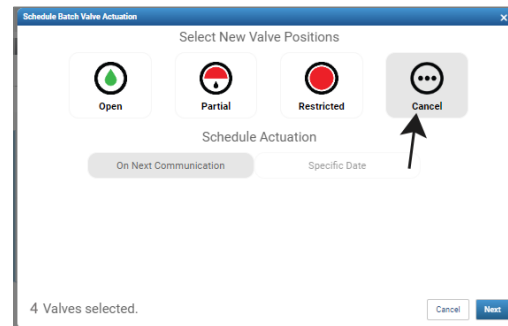

Figure 27: Select Cancel
3. At the top of the window, click  to cancel the pending batch actuation (Figure 27). Then click **Next**.